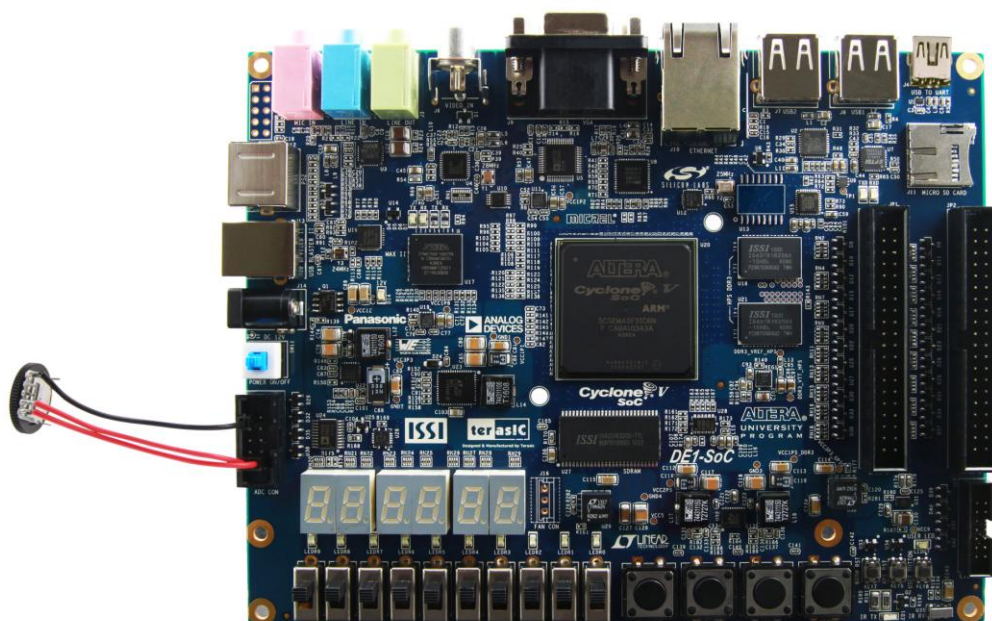

Figure 5-23 Hardware setup for the ADC reading demonstration
- Connect the trimmer to corresponding ADC channel on the 2x5 header, as shown in **Figure 5-23**, as well as the +5V and GND signals. The setup shown above is connected to ADC channel 0.